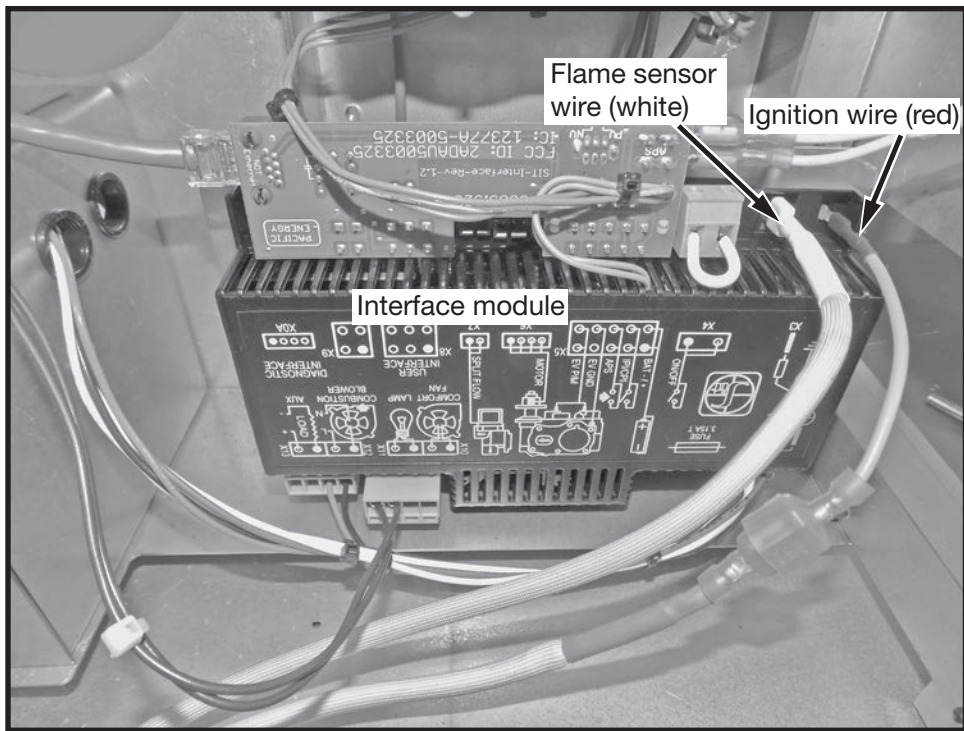

Figure 8: Interface module.
6. Attach the ignition and sensor wires to the Interface module as shown in Figure 8.